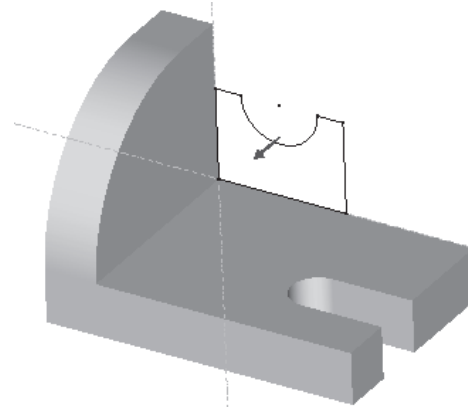

Figure 4-73 Arrow showing the direction of material addition
4. Use the CTRL+middle mouse button to orient the model as shown in Figure 4-73. This orientation of the model gives a better view of the sketch in 3D space. A red arrow is also displayed on the model, indicating the direction of extrusion.